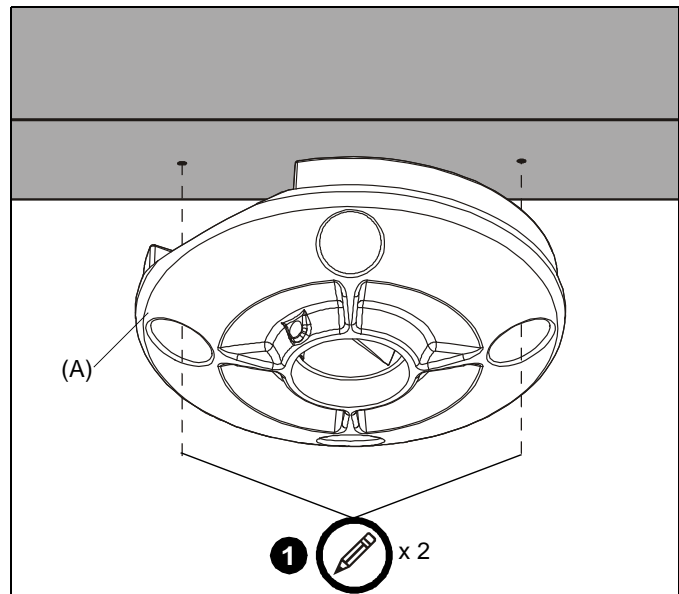

Figure 1
1. Using ceiling plate (A) as a template, mark locations of two pilot holes (See Figure 1). Ensure the following:
- Use *OPPOSITE* holes in plate (A), and